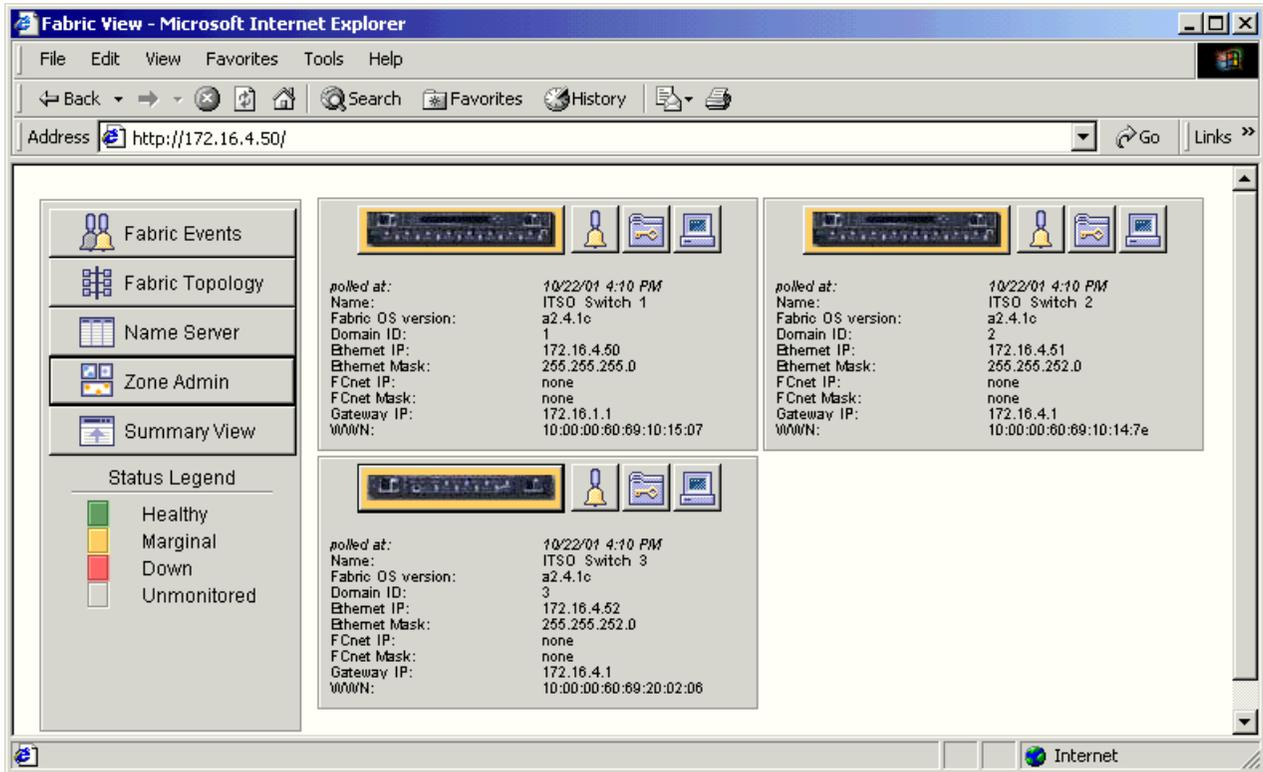

Figure 7-3 Three switches in the fabric
7. We repeated steps 1 through 6 for a third switch, a 2019 S08. The third switch can be seen in Figure 7-3: